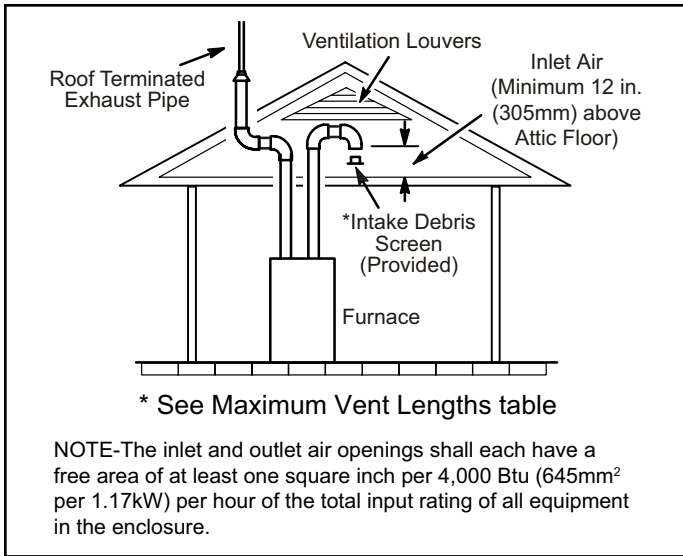
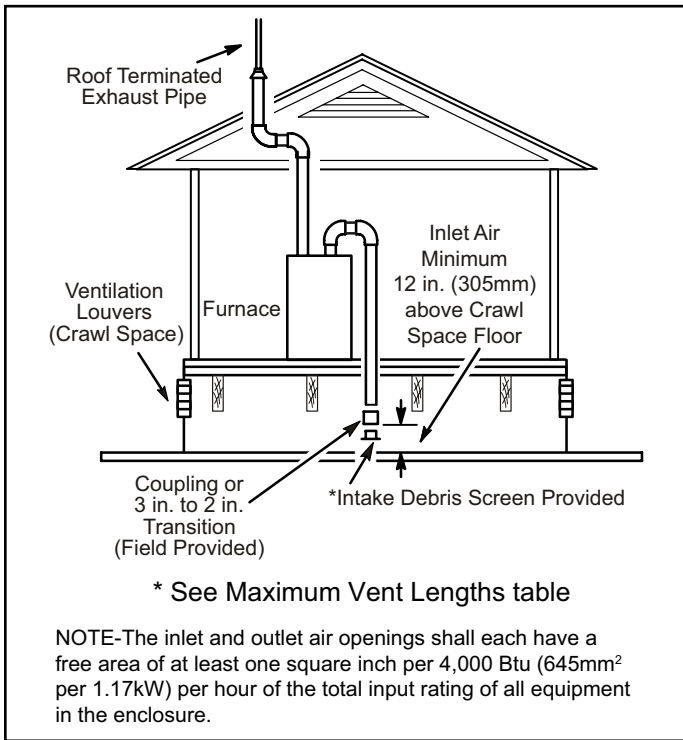

Figure 30. Equipment in Confined Space (Inlet Air from Ventilated Attic and Outlet Air to Outside)
Figure 31. Equipment in Confined Space (Inlet Air from Ventilated Crawlspace and Outlet Air to Outside)
2. If intake air is drawn from a ventilated attic (Figure 30) or ventilated crawlspace (Figure 31) the exhaust vent length must not exceed those listed in Table 6. If 3" diameter pipe is used, reduce to 2" diameter pipe at the termination point to accommodate the debris screen.